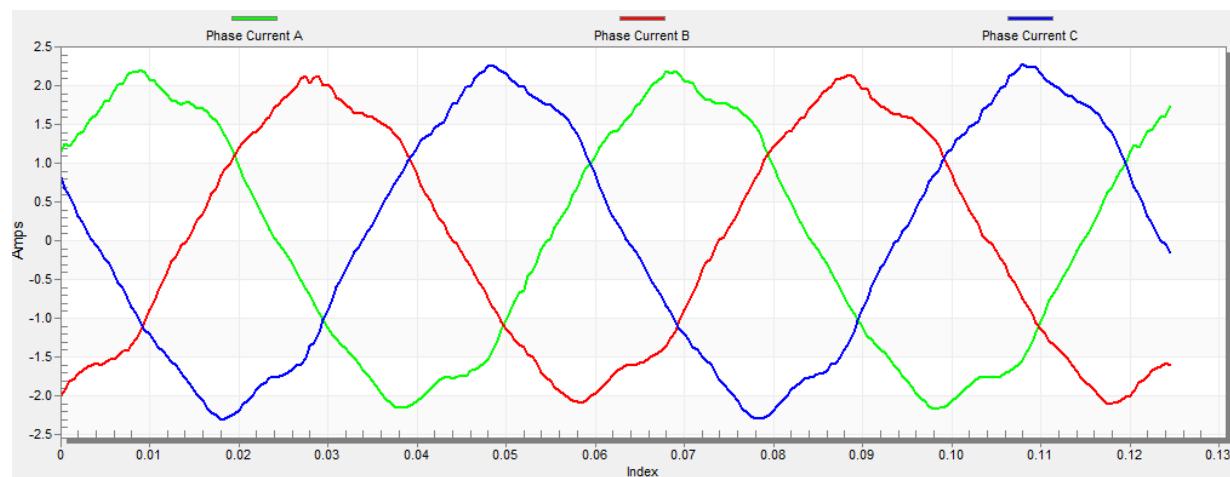

Figure 23. Phase currents
- The optimal ratio for the V/Hz profile can be found by changing the V/Hz factor directly or using the “UP/DOWN” buttons. The shape of the motor currents should be close to a sinusoidal shape (see Figure 23).